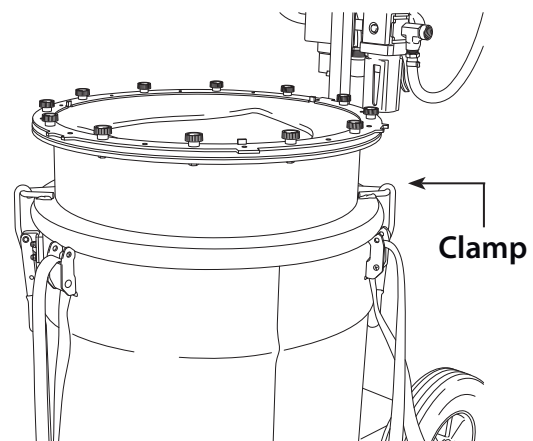

Figure 30
2. Reinstall the intermediate ring and clamp it to the canister, ensuring a tight seal to the ash bag. (Figure 30)